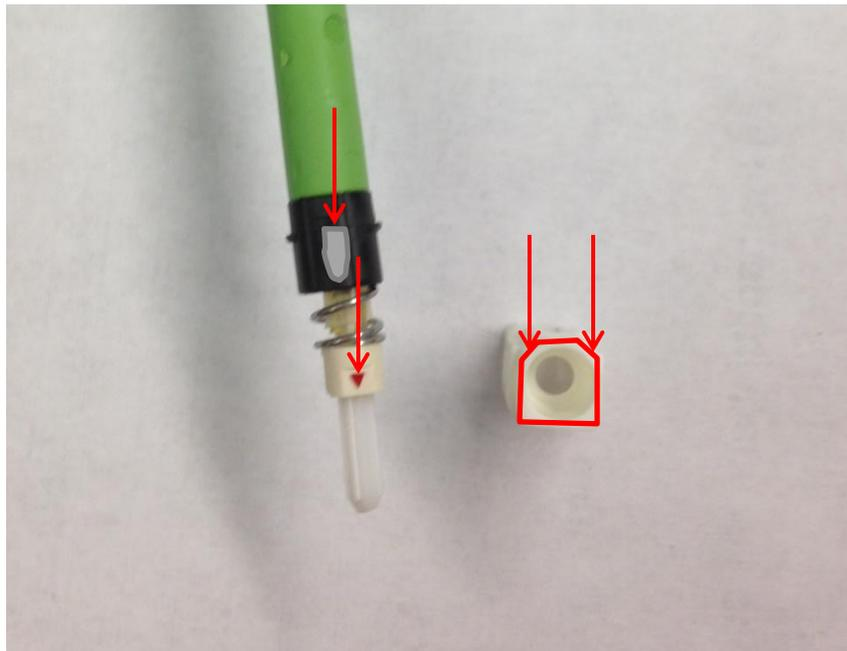
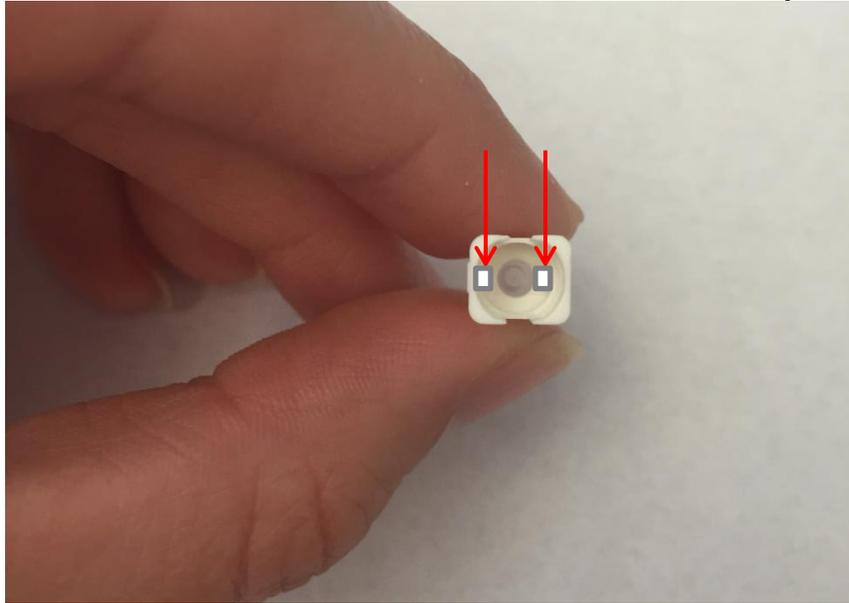
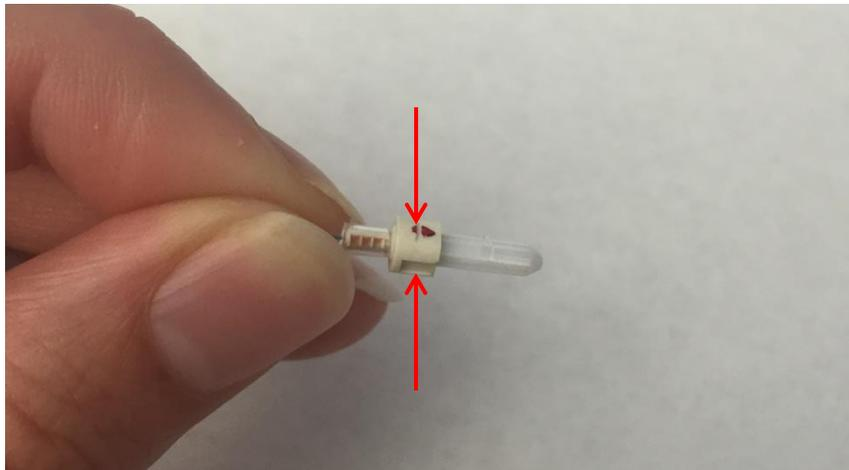
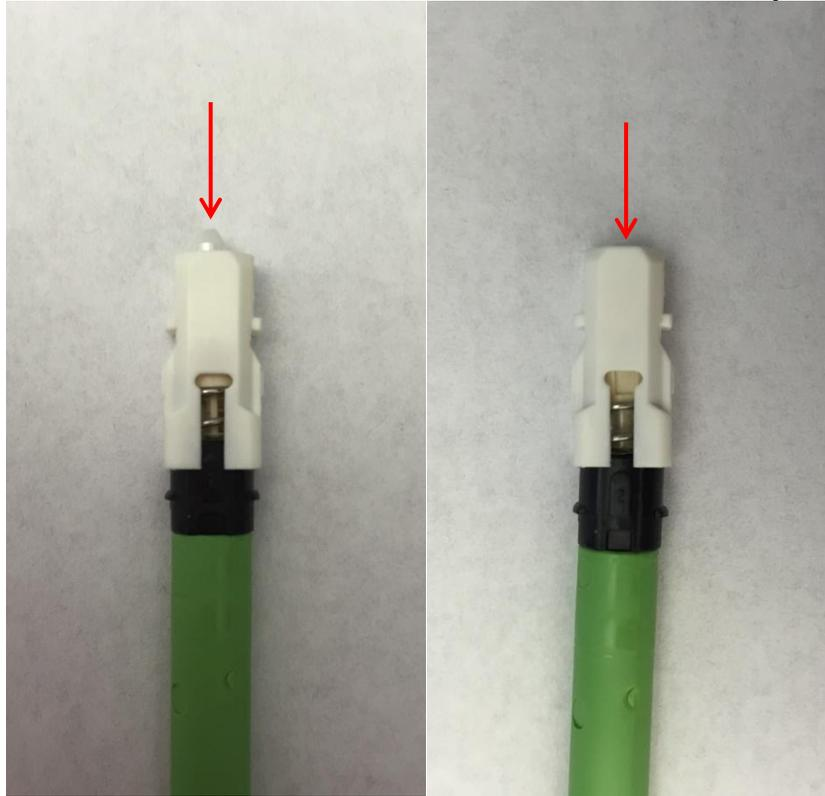

Figure 7
Figure 8
Figure 9
Figure 10: Left-good, Right-bad
Step 2: The white connector body has beveled corners on the top and two “notches” on the inside. The connector body is hexagonal, looking similar to the shape of a house, from the end face as shown in Figure 7. The two inner notches can be seen in Figure 8. The key of the boot, the red dot on the ferrule, and the beveled face of the housing should align. The two notches must align with the openings on either side of the red dot on the ferrule show in Figure 9. The ferrule will not protrude properly from the housing if the notches are misaligned as shown in Figure 10. When everything is aligned properly push until an audible click is heard.